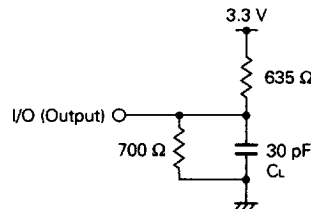

Fig. 3 Output load (for μ PD46258)
tCLZ, tOLZ, tCHZ, tOHZ, tWHZ, tOW (for μ PD46258) are measured with the output load shown in **Fig. 3**.
2. See the output load shown in Fig. 3.
Note See the output load shown in Fig. 3.